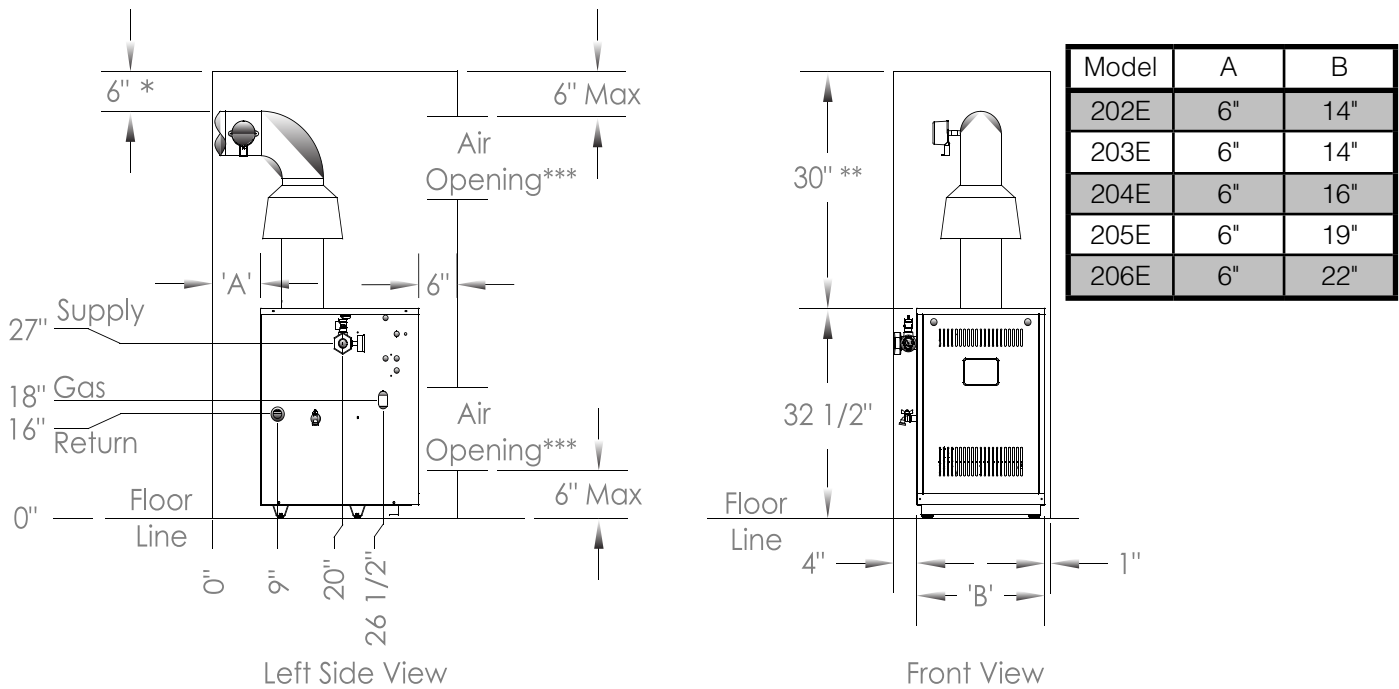
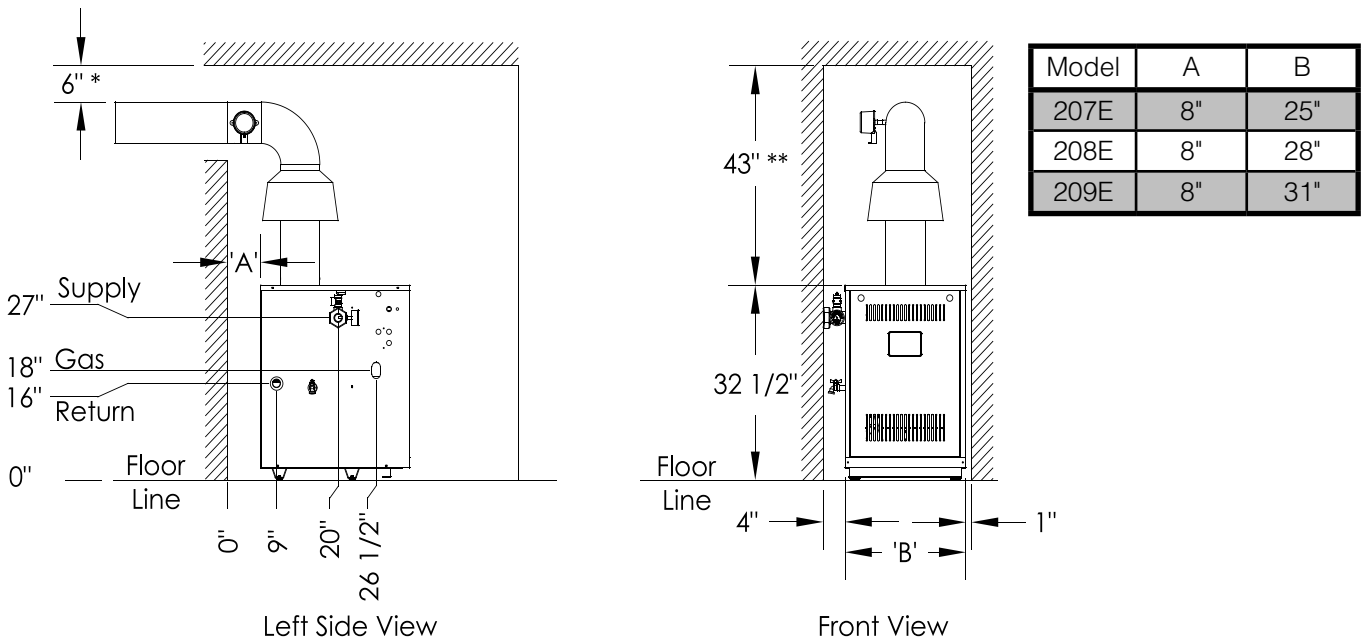

Figure 4-1: Minimum Closet Clearances
Figure 4-2: Minimum Alcove Clearances
- B. Inspect shipment carefully for signs of damage. Any claim for damage or shortage in shipment must be filed immediately against carrier by consignee. No claims for variances or shortages will be allowed by Boiler Manufacturer, unless presented within sixty (60) days after receipt of equipment.
- E. Provide clearance between boiler jacket and combustible material in accordance with authority having jurisdiction. Minimum clearances outlined in Figure 4-1 (Closet Installations) or Figure 4-2 (Alcove Installations).
1. Minimum clearances to combustibles are shown in Figure 4-1 and Figures 4-2.
Models 202E, 203E, 204E, 205E & 206E are listed for closet installation. See Figure 4-1.
Models 207E, 208E & 209E are listed for Alcove installation. See Figure 4-2.